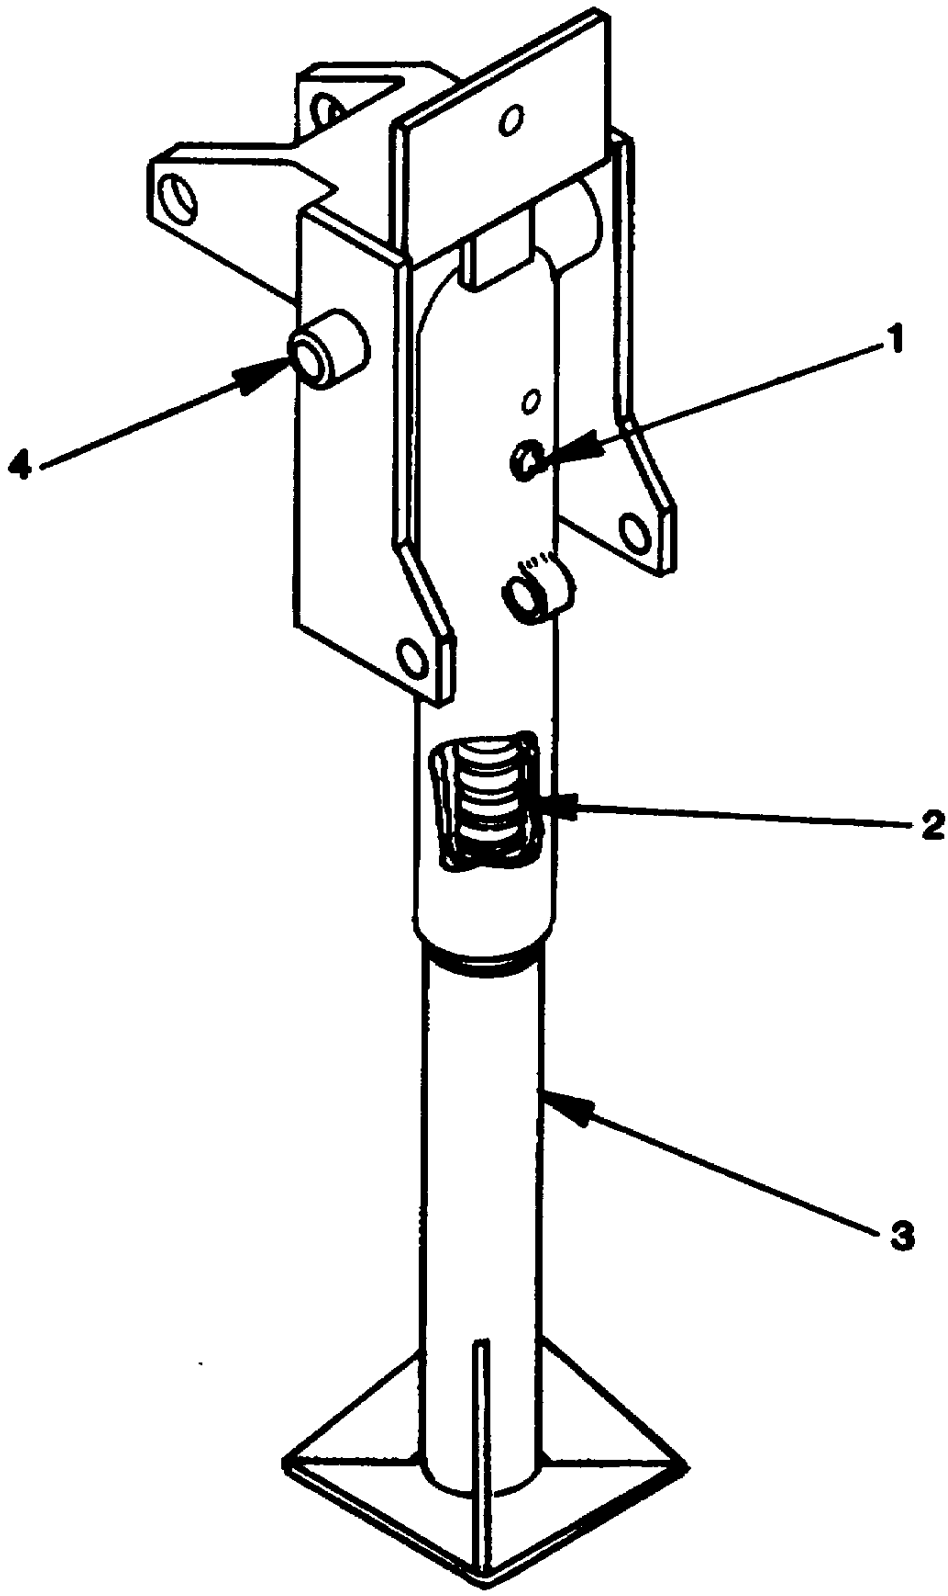

Figure 4-3. Rear Leg Prop Lubrication Points.
Installation of the power plants AN/MJQ-32 and AN/MJQ-33 at a worksite involves positioning the trailer and grounding the power plants. Since both power plant installation procedures are alike, only the AN/MJQ-33 will be shown in figure 4-3.
a. Trailer Lubrication. Refer to TM9-2330-202-14&P for trailer Lubrication Order. Refer to items 2 thru 6, Appendix F, for lubricating items.
- (1) Clean lubrication fitting (1, figure 4-3) and area around lubrication points with PO-680 (item 1, Appendix F) or equivalent.
- (2) Inject sufficient GAA (item 6, Appendix F) grease into hydraulic fitting to lubricate screw threads (2) inside leg base (3).
- (3) Apply OE (items 2 or 3, Appendix F) lubricating oil to both ends of leg prop assembly pivot shaft (4).